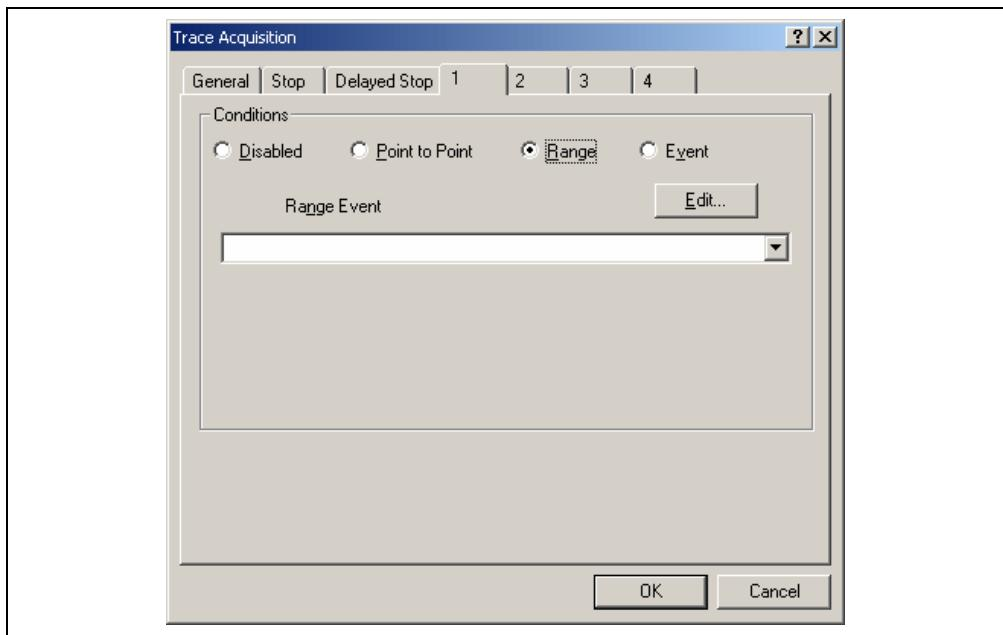

Figure 6.46 [Trace Acquisition] Dialog Box (Displaying Page [1])
(8) Select page [1] and click the [Range] radio button in the [Conditions] group box. This will display the [Range Event] combo box and the [Edit...] button (see figure 6.46, [Trace Acquisition] dialog box).
(9) Click the [Range Event] combo box to select the event you have registered. The event is now enabled. Click the [OK] button to complete the trace setting.